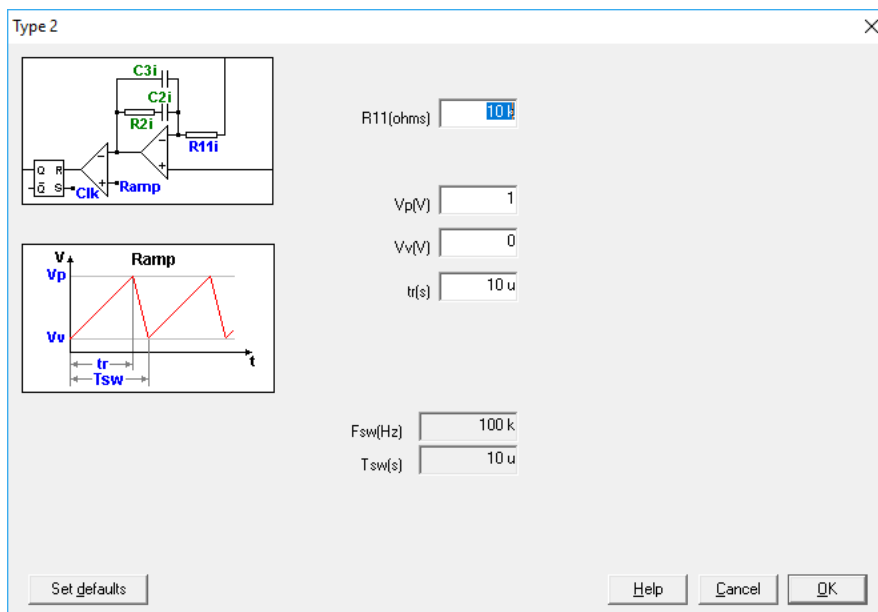

Figure 4: compensator parameters
- c) Compensator: select a Type 2. See Figure 4.